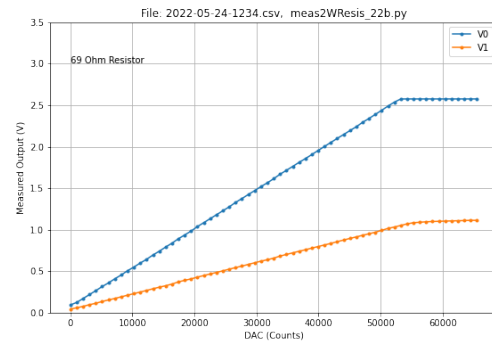

Figure 6:  $V_0$  and  $V_1$  versus DAC Counts for a 60 Ohm resistor as a sample.
*Figure 6* shows a graph of  $V_0$  and  $V_1$  versus DAC setting. You can see at counts less than about 4000 the curves flatten out or slightly rises. I believe this is an effect of the pull up resistor. At the higher end, the voltage does not go above 2.58 V. I believe this is a limit of the ADC. In between the two graphs look linear. In the software I will limit the data to DAC counts to greater than 4000 and voltages less than 2.50.